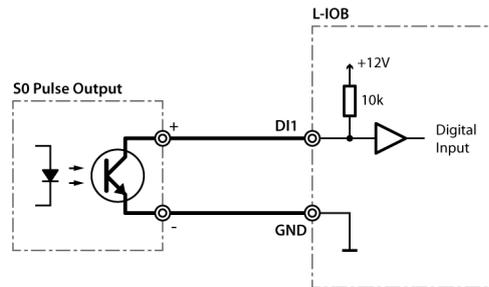

Figure 64: S0 pulse meter connected to DI
S0 pulse meters must be connected to digital inputs (DI) as shown in Figure 64.